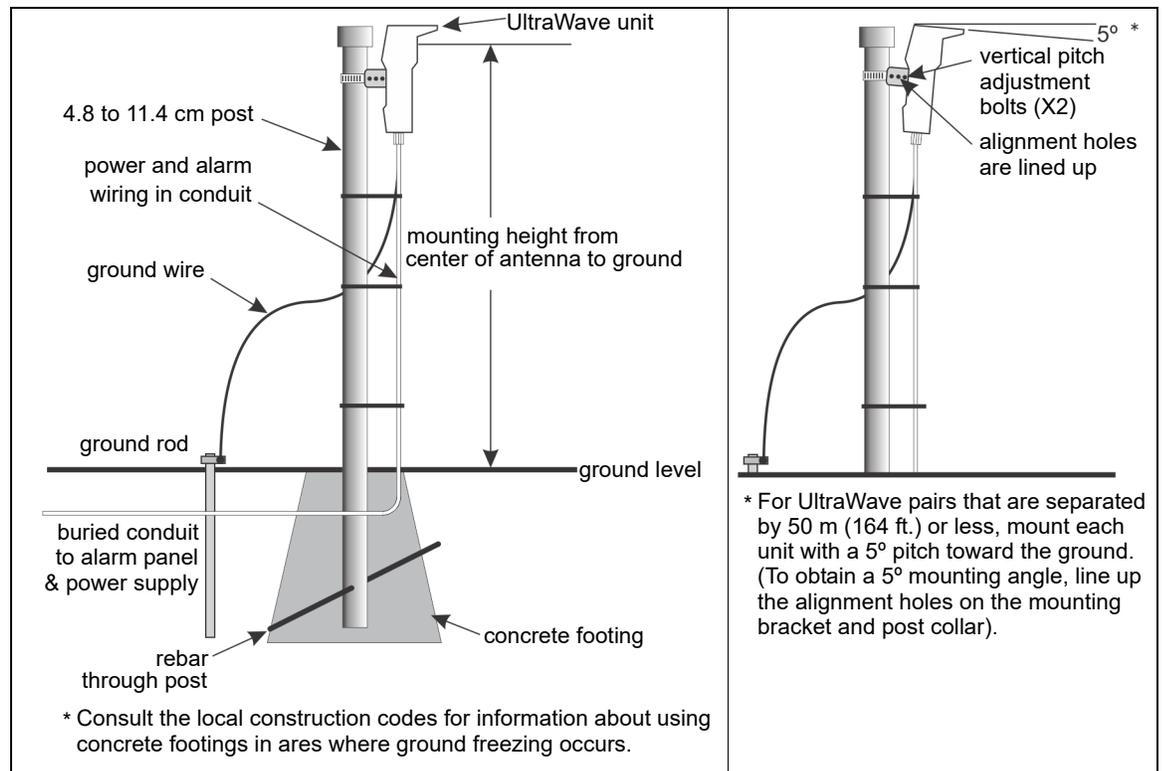
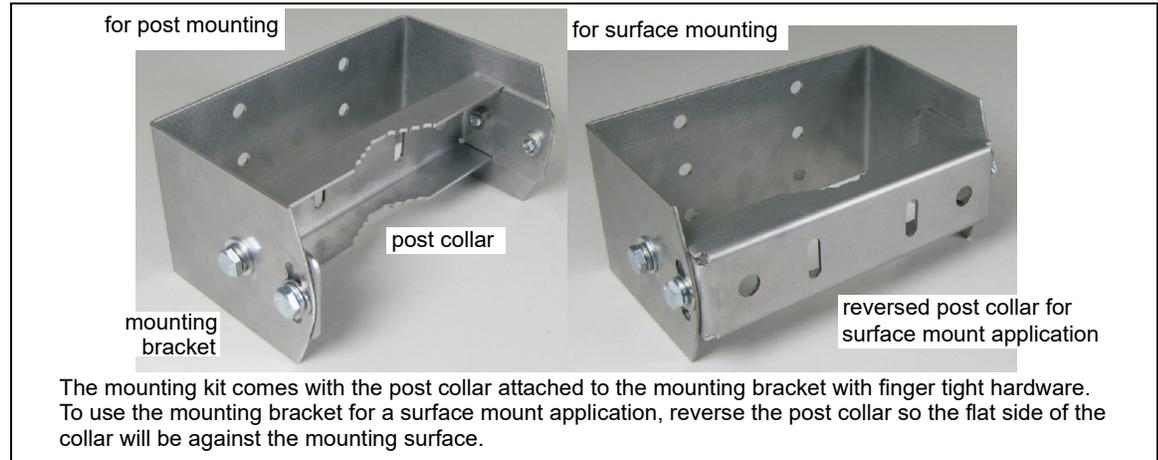
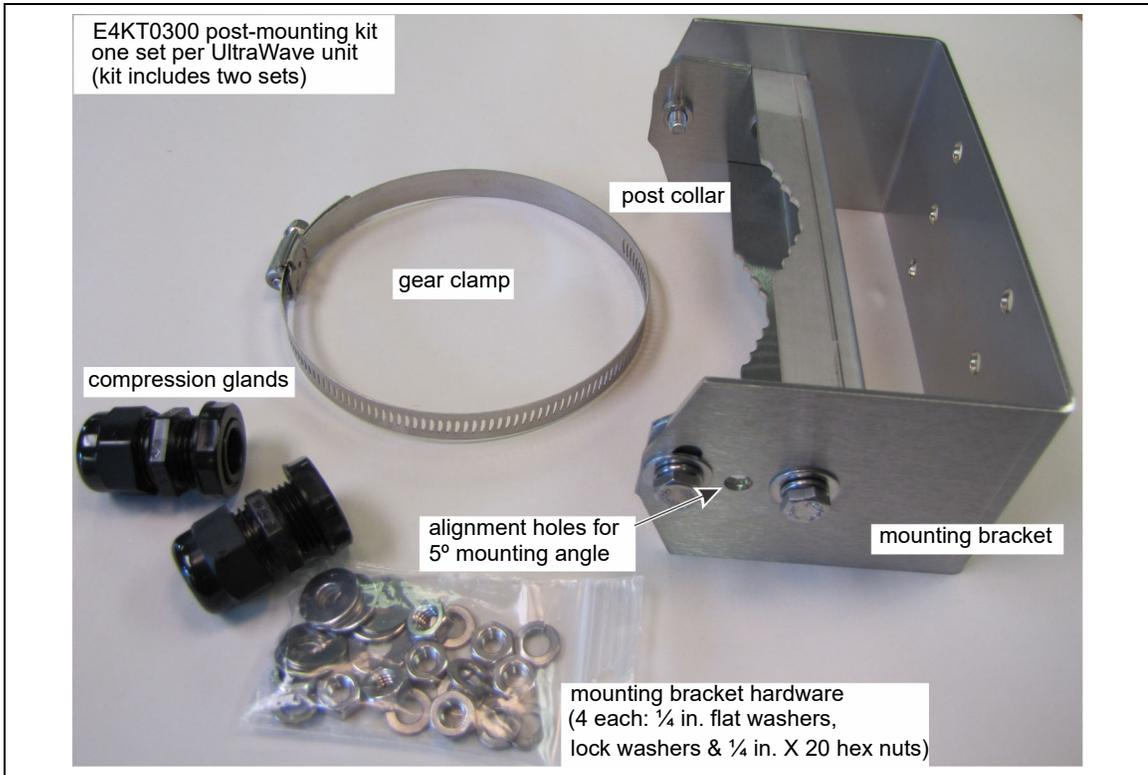
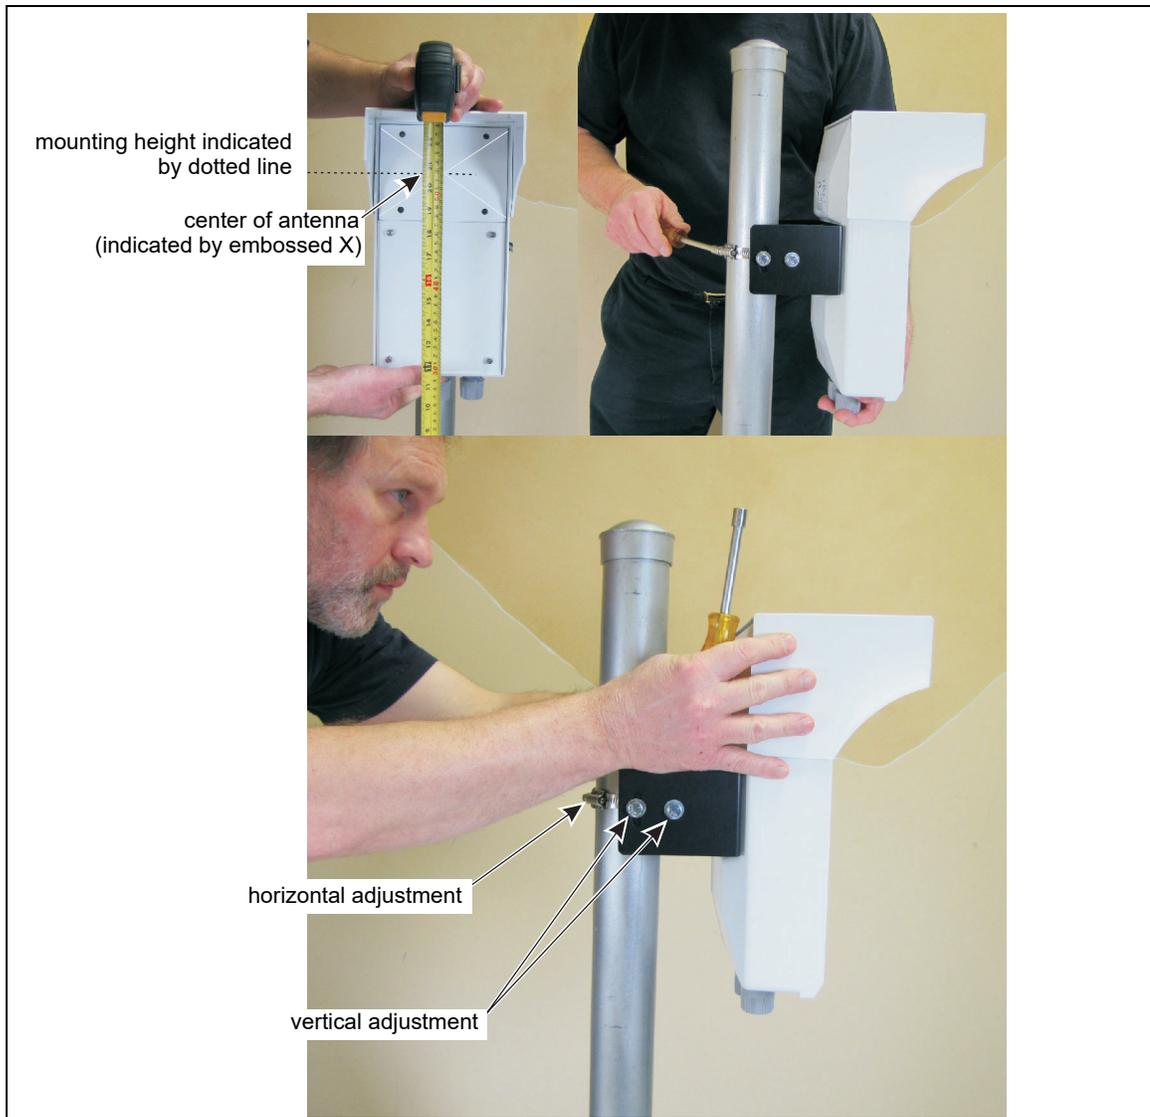

Figure 8 Post installation and unit mounting
Figure 12 Post mounting/surface mounting setup
Figure 13 Mounting hardware kit
Figure 16 UltraWave alignment
For microwave pairs with a unit separation of 50 m or less, the microwave units are mounted with a 5° pitch (toward the ground). This provides the optimum signal strength, when combining the direct signal and the reflected signal at the receiver unit (see Figure 8).
The UltraWave units mount easily on posts with an outside diameter ranging between 4.8 cm and 11.4 cm (1.875 in. and 4.5 in.). The posts must be plumb, firmly set in the ground, and unable to rotate or move. For areas where the ground freezes, the posts must be protected against potential frost heaving. A 2.5 m (8 ft.) post is generally used with 91 cm (3 ft.) of the post buried in a concrete footing. Figure 8 is an illustration of a post-mounted UltraWave unit.
Mount the transmitter and receiver units on their respective posts, using the hardware provided in the post-mounting kit (p/n E4KT0300, see Figure 13). The mounting height of the transmitter and receiver units is measured from the center of the antenna to the ground's surface. As an alignment aid, the cover over the antenna includes an embossed X-pattern, that indicates the center of the antenna (see Figure 16). The UltraWave units can also be mounted on a wall or other flat stable surface (see Figure 12). Both the transmitter and receiver units must be mounted at the same height above ground. After mounting, the two units must be aligned to point directly at each other.
For microwave pairs that are separated by 50 m (164 ft.) or less, each UltraWave unit should be mounted with a 5° pitch (toward the ground). The 5° pitch combines the reflected signal and the direct signal to create the strongest received signal possible for short range applications (see Figure 8 and Figure 16). The mounting bracket and the post collar each include a central alignment hole, that when lined up, create a precise 5° angle. The calibration testing will determine if the mounting angle is correct for your installation.
3. Wrap the gear clamp around the post and measure the mounting height of the UltraWave unit from the center of the antenna (see Figure 16) to the ground's surface.
For optimal performance, ensure that the UltraWave transmitter and receiver are aimed directly toward each other, and that the mounting height is correct for both units (see Figure 16).